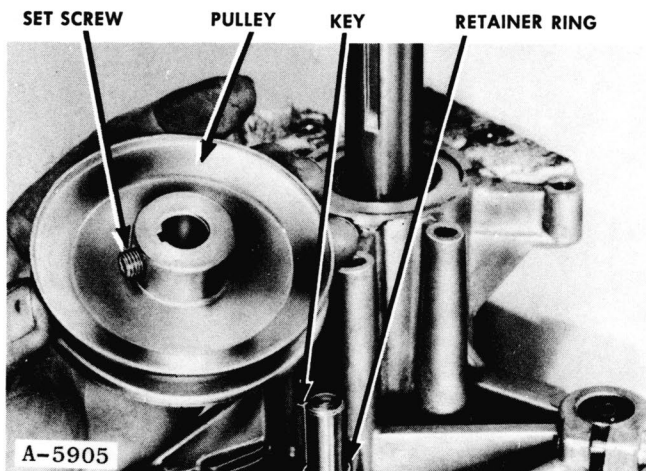

Figure 134
2. Loosen set screw and remove pulley from drive shaft, Figure 134.